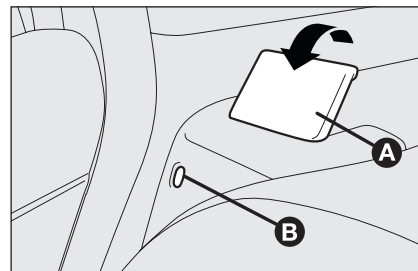

fig. 89
- lift seat back retaining lever **A-fig. 89** and tilt the seat back forward. Lever lifting is shown by a “red band” **B**.